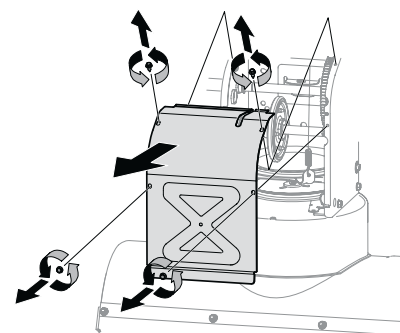

Figure 4-4
3. Remove frame cover from underside of unit by removing self-tapping screws (a) which secure it. Refer to Figure 4-4.
5. Remove frame cover from underside of unit by removing self-tapping screws which secure it. See Figure 4-4.
3. Remove frame cover from underside of unit by removing four self-tapping screws which secure it. See Figure 4-4.
4. Remove frame cover from underside of unit by removing self-tapping screws which secure it. See Figure 4-4. Remove right-hand wheel by removing screw and bell washer which secure it to axle. See Figure 4-15.